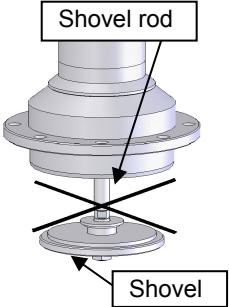

Fig. 4 Shovel part
-  - Before installing the pump, verify that the shovel at the bottom is NOT sticking out. Failure to follow this instruction may result in damage to the shovel rod causing a pump failure. (Fig. 4)
-  - Do not put your hand between the pump body and shovel. Hand injury may be caused by a sudden movement. (Fig. 4)